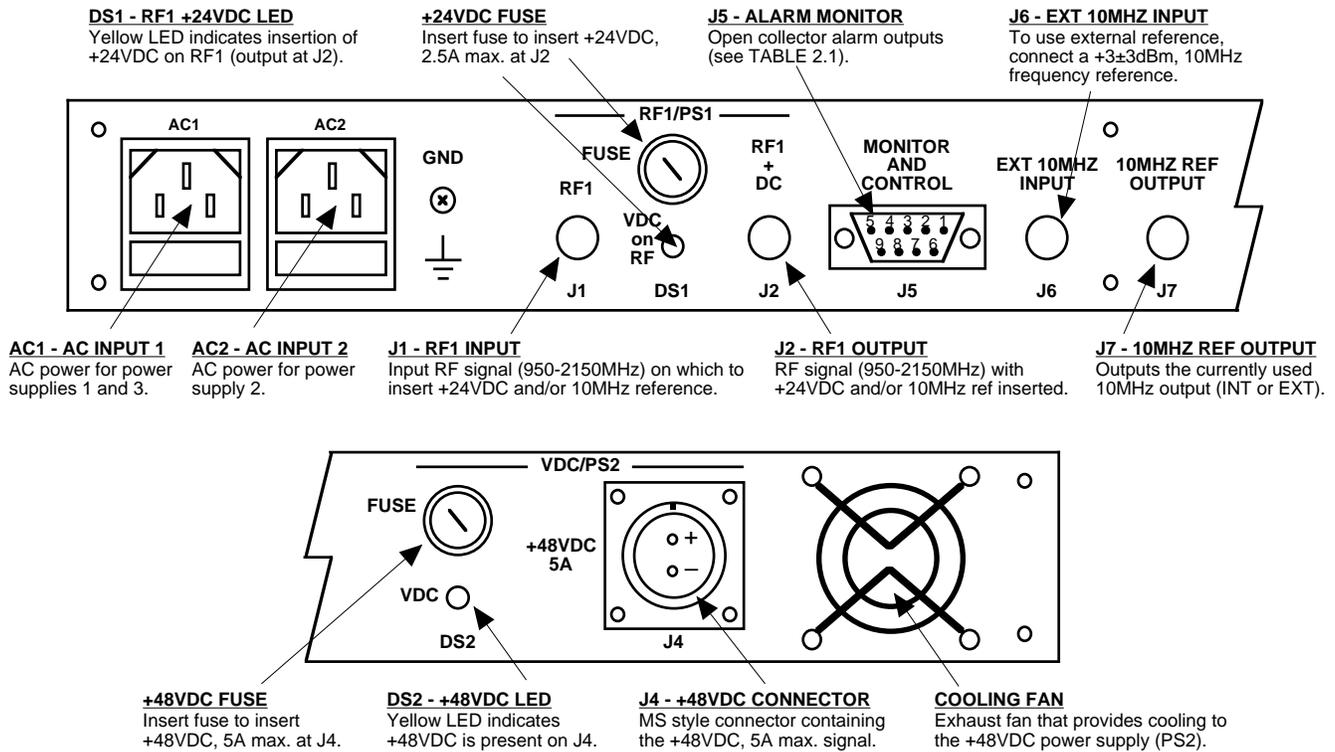

FIGURE 2.2 Rear Panel Outputs
Figure 2.2 shows the input and output signals and indicators on the rear panel.
1. Connect 950-2150 MHz signal to RF1 IN, J1 (Fig. 2.2).
2. Connect RF1+DC OUT, J2, to desired equipment (Fig. 2.2).
3. Connect +48VDC, J4, to desired equipment (Fig. 2.2).
4. If desired, insert external 10MHz, $+3 \pm 3$ dBm signal into EXT REF INPUT, J6 (Fig. 2.2).
7. Monitor the 10MHz reference currently in use using 10MHZ REF OUTPUT, J7 (Fig. 2.2).
9. Install 2.5A fast-blo fuse in +24VDC fuseholder if +24VDC, 2.5A max is to be inserted at RF1 OUTPUT, J2 (Fig. 2.2).
10. Install 5A slow-blo fuse in +48VDC fuseholder if +48VDC, 5A max is to be inserted on J4 (Fig. 2.2).
11. Connect 100-240 $\pm 10\%$ VAC, 47 - 63 Hz to AC1 and AC2 connectors on the rear panel (Fig. 2.2).
15. Make sure that DS5 (ALARM, red) is off and/or that there are no alarm contact closures at DB9 MONITOR connector, J5 (Figures 2.2 and 2.3).